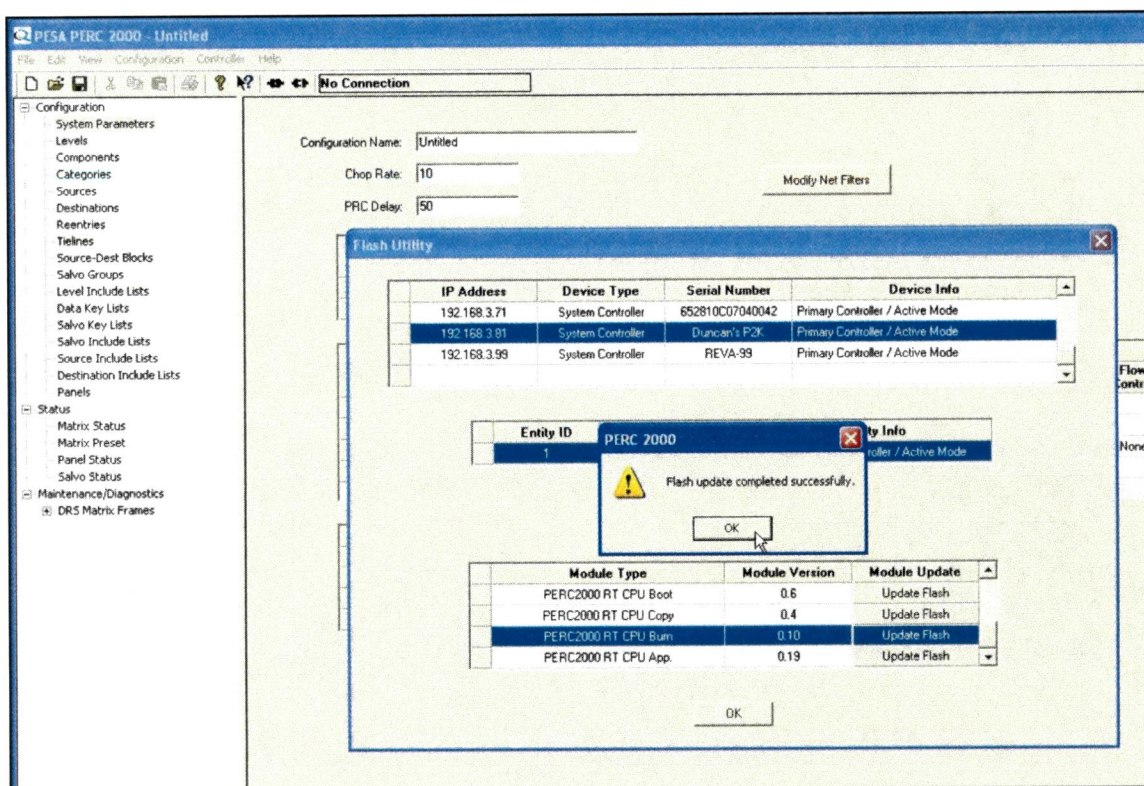

Figure 19. Flash Complete Notification Box
8. When the module has been reprogrammed, the GUI will display a window stating that the Flash Update was successful as shown in Figure 19. Click **OK** to clear the window.